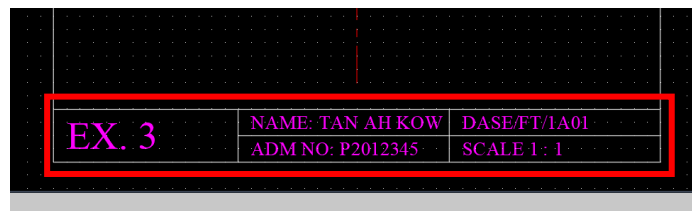

Fig 19
- vi. The end result of inserting the text in Title Block is completed as shown in Fig 19 below. You can now start to draw the object in Exercise 3.